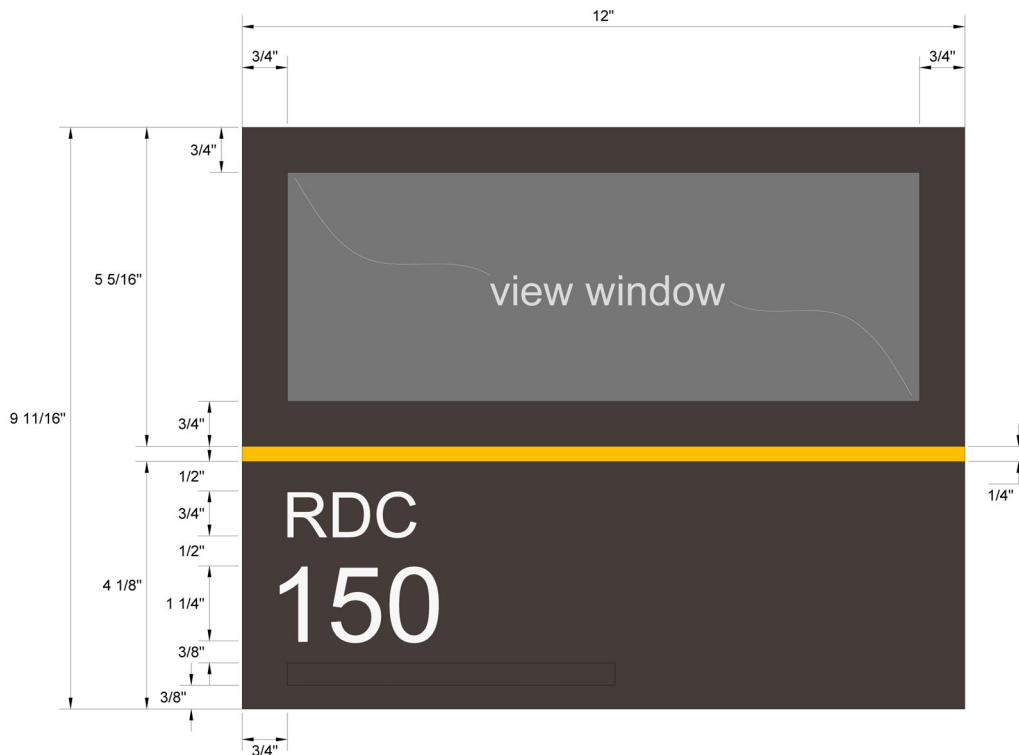

Figure 12.9
- 12.9. UMD B1 sign elevation shall comply with figure 12.9.